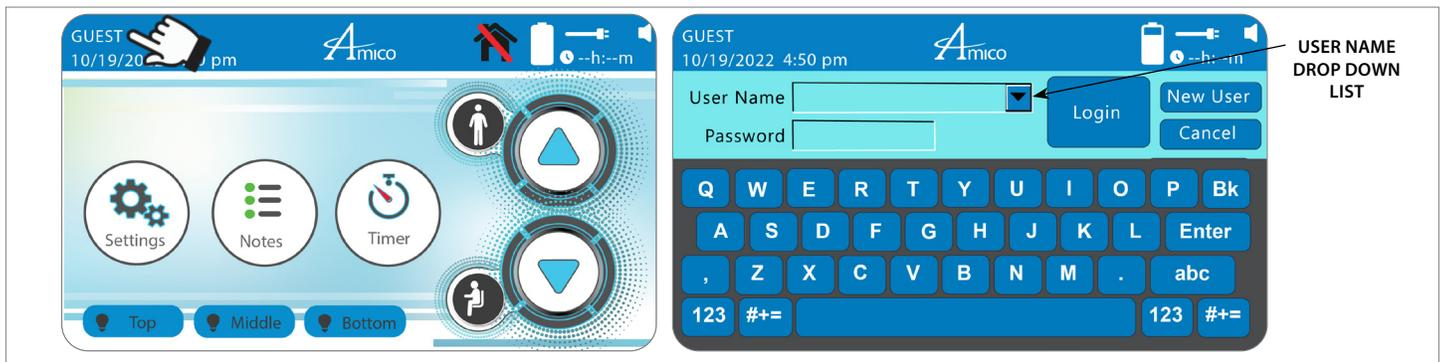

Figure 54
1. Tap on **"GUEST"** in top left corner of interface (Figure 54 left).